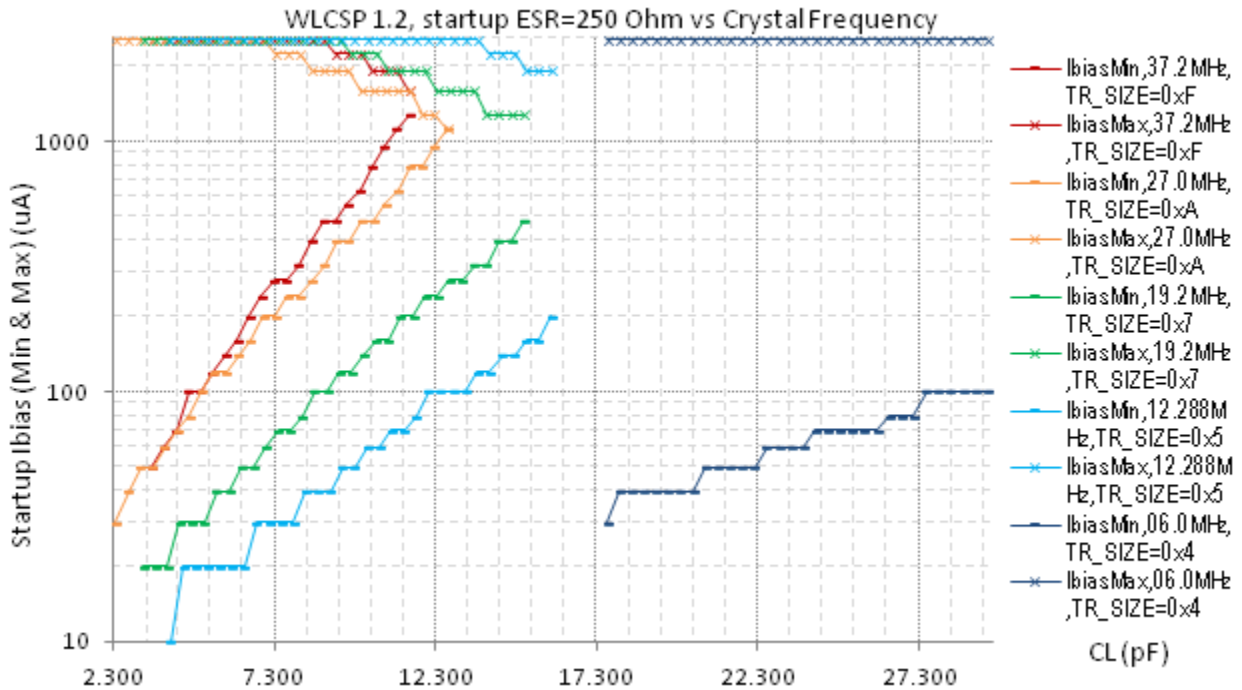

Figure 10. Safe Range of Operation for a 250 Ω Startup ESR Crystal
1. **Maximum C_L** : Looking at the safe operation range for the plotted frequency immediately above the desired frequency (27 MHz) and a startup ESR equal to $5 \times R_{esr}$ (startup ESR = 250Ω —Figure 10), one extracts the $C_L = 12.5 \text{ pF}$ as the maximum C_L with safe operating range. $C_L = 10 \text{ pF}$ in this example is in the safe operation range.
2. **TR_SIZE**: For the chosen $C_L = 10 \text{ pF}$ (x axis value), the recommended setting is obtained by linear interpolation between the TR_SIZE of plotted crystals with frequency immediately lower and higher. The calculation results in $TR_SIZE = 0 \times 9$ (9), from $7 + (10 - 7) \times (24 - 19.2)/(27 - 19)$.
3. **IBIAS**: For the chosen crystal frequency of 24 MHz and startup ESR of 250Ω (Figure 10), the recommended IBIAS is determined by the linear interpolation between the IBIAS twice above the minimum or centered in the safe Ibias range, whichever lower, for the plotted crystals with frequency immediately lower and higher for the chosen $C_L = 10 \text{ pF}$ (x axis).